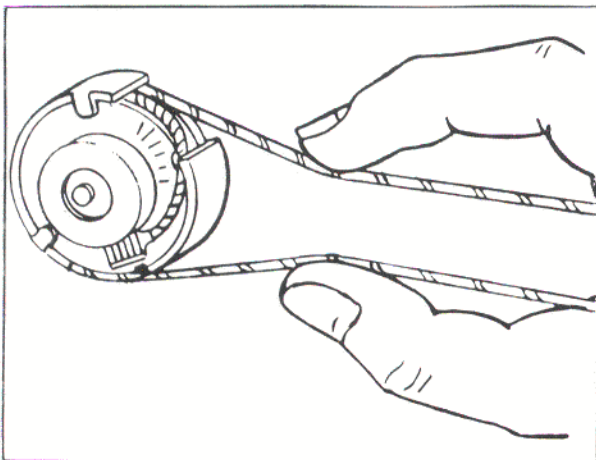

Fig. 3
5. Reach up under cowl and take the cables between the thumb and forefinger and increase finger pressure until one notch movement of the transmission serrations can be felt and/or heard (fig. 3). While holding the cables in this position, retighten the tension screw in end of transmission shaft (this step is a two man operation).